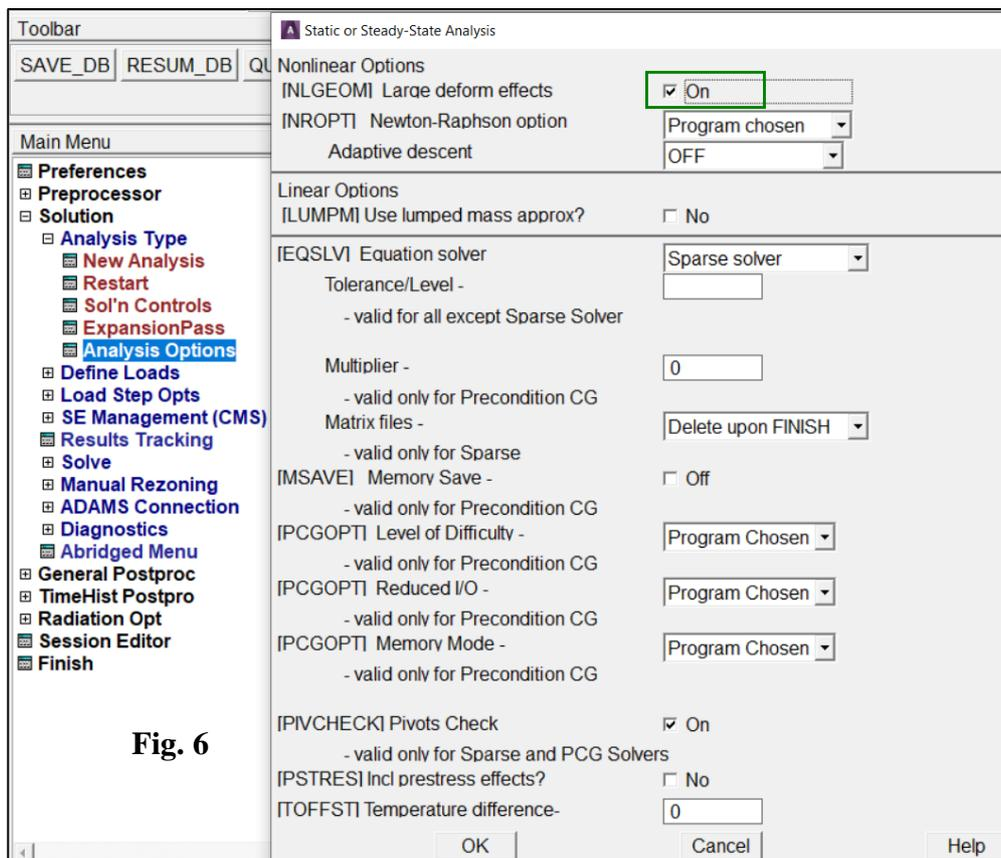
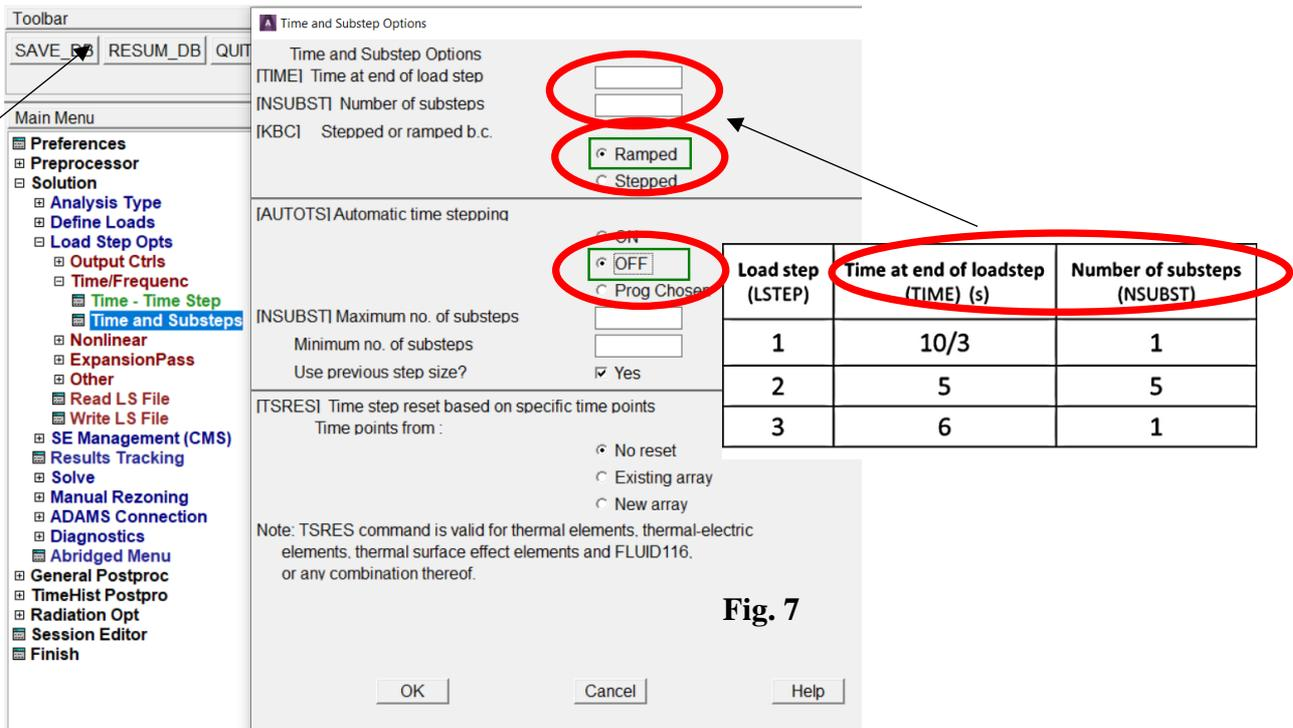

Fig. 6
Fig. 7
The pressure in each load step is applied as 'ramped': 0->10/3, 10/3->5, 5->0 (MPa). In the 'Analysis Options' (Fig. 6) the Large Deformations are turned ON and in the 'Time and Substeps' the automatic time stepping is turned OFF (to get results in chosen time moments) – see Fig 7.
b) Set and write Load Steps (apply Pressure as in point 6, and Options as in Fig 7 and 8):
- LS1: apply  $p = 10/3$  MPa, specify proper TIME, NSUBST, FREQ (Fig. 7, 8 and 9), and **LSNUM = 1**,